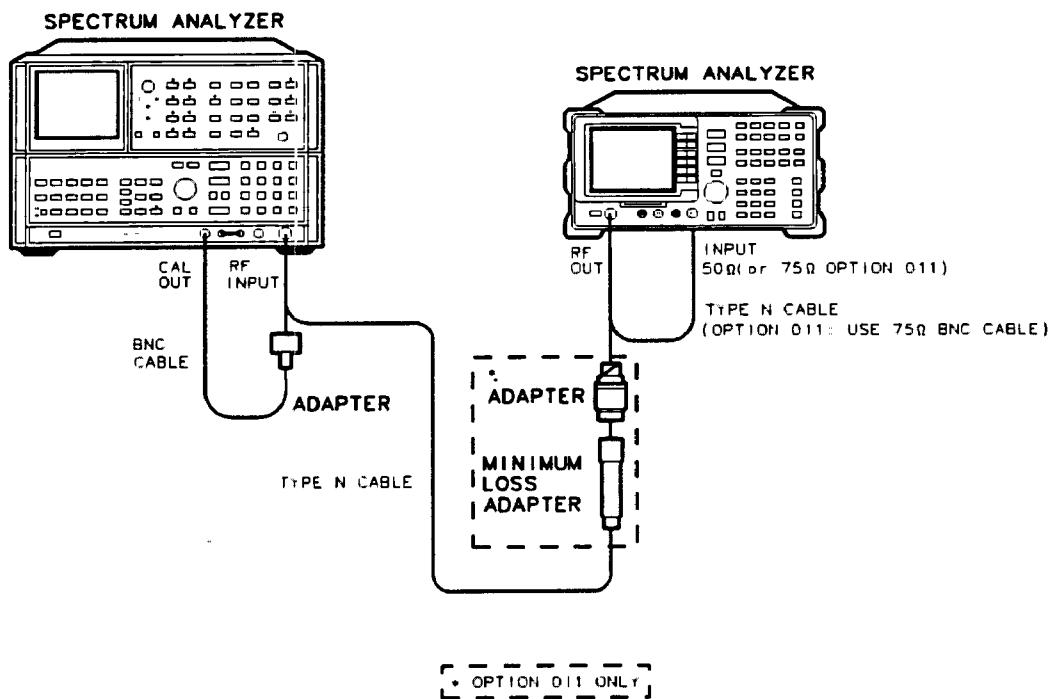

Figure 3-26. Non-Harmonic Spurious Outputs Test Setup
1. Connect the Type N cable between the RF OUT 50Ω and INPUT 50Ω connectors on the HP 8590B Spectrum Analyzer. See Figure 3-26.
7. Connect the Type N cable from the tracking generator output to the HP 8566A/B RF INPUT as shown in Figure 3-26.